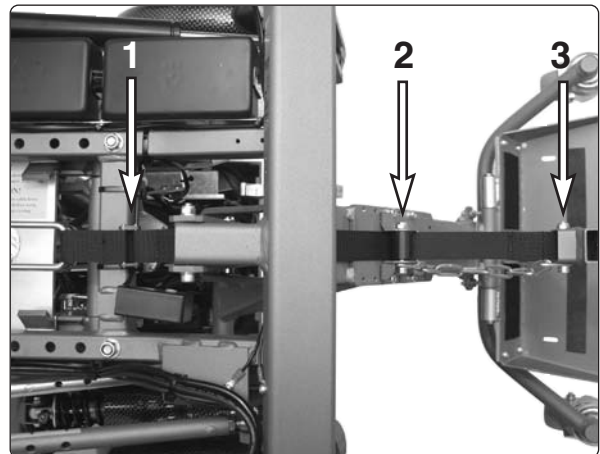

Fig. 93. Mounting of knee stops strap.
4. Remove the strap lock, see Fig. 93:1
5. Remove the screw that holds the strap at the knee stops, see Fig. 93:3.
1. Screw the strap in firmly at the knee stops, see Fig. 93:3.
4. Mount the strap together with the strap lock, see Fig. 93:1.